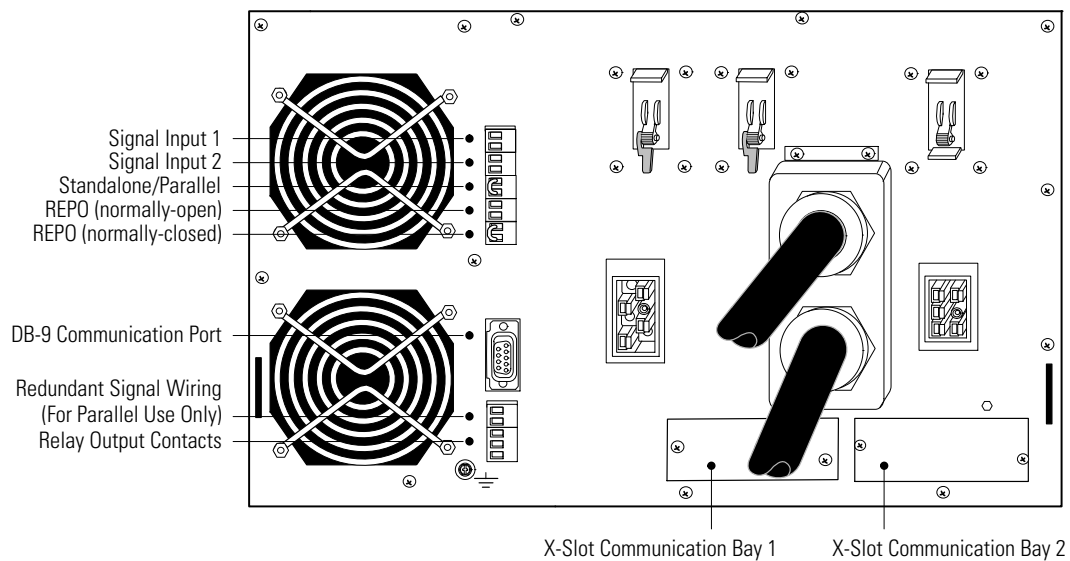
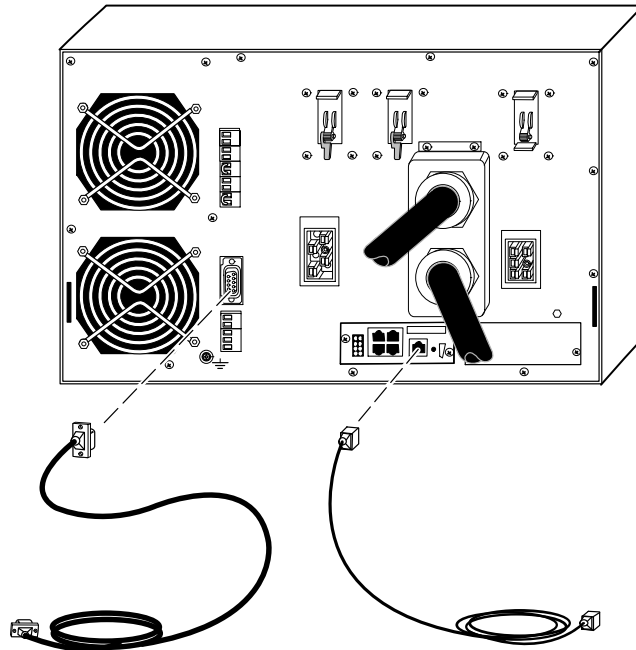
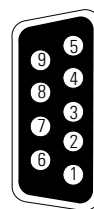

Figure 73. Communication Options and Control Terminals (Standalone UPS shown)
Figure 74. Installing Communication Cables
Figure 75. Communication Port
Figure 73 shows the location of the communication options and control terminals on the UPS.
1. Install the appropriate X-Slot card and/or necessary cable(s) (see Figure 73 and Figure 74).
Figure 75 identifies the cable pins and Table 12 describes the pin functions. See Figure 73 on page 107 for the communication port location.
See Figure 73 on page 107 for the location of the two X-Slot communication bays.
The UPS incorporates a programmable relay output with potential free contacts for remote alarm indications (see Figure 73 on page 107). You can obtain an additional four relay outputs with the X-Slot compatible Relay Interface Card.
The UPS incorporates two programmable signal inputs (see Figure 73 on page 107). Use of non-polar (relay) control input is recommended. The pins must be shorted with maximum resistance of 10 ohm in order to activate the specific input.
There are two REPO positions that may be used, normally-open (NO) or normally-closed (NC). See Figure 73 on page 107 for REPO locations.